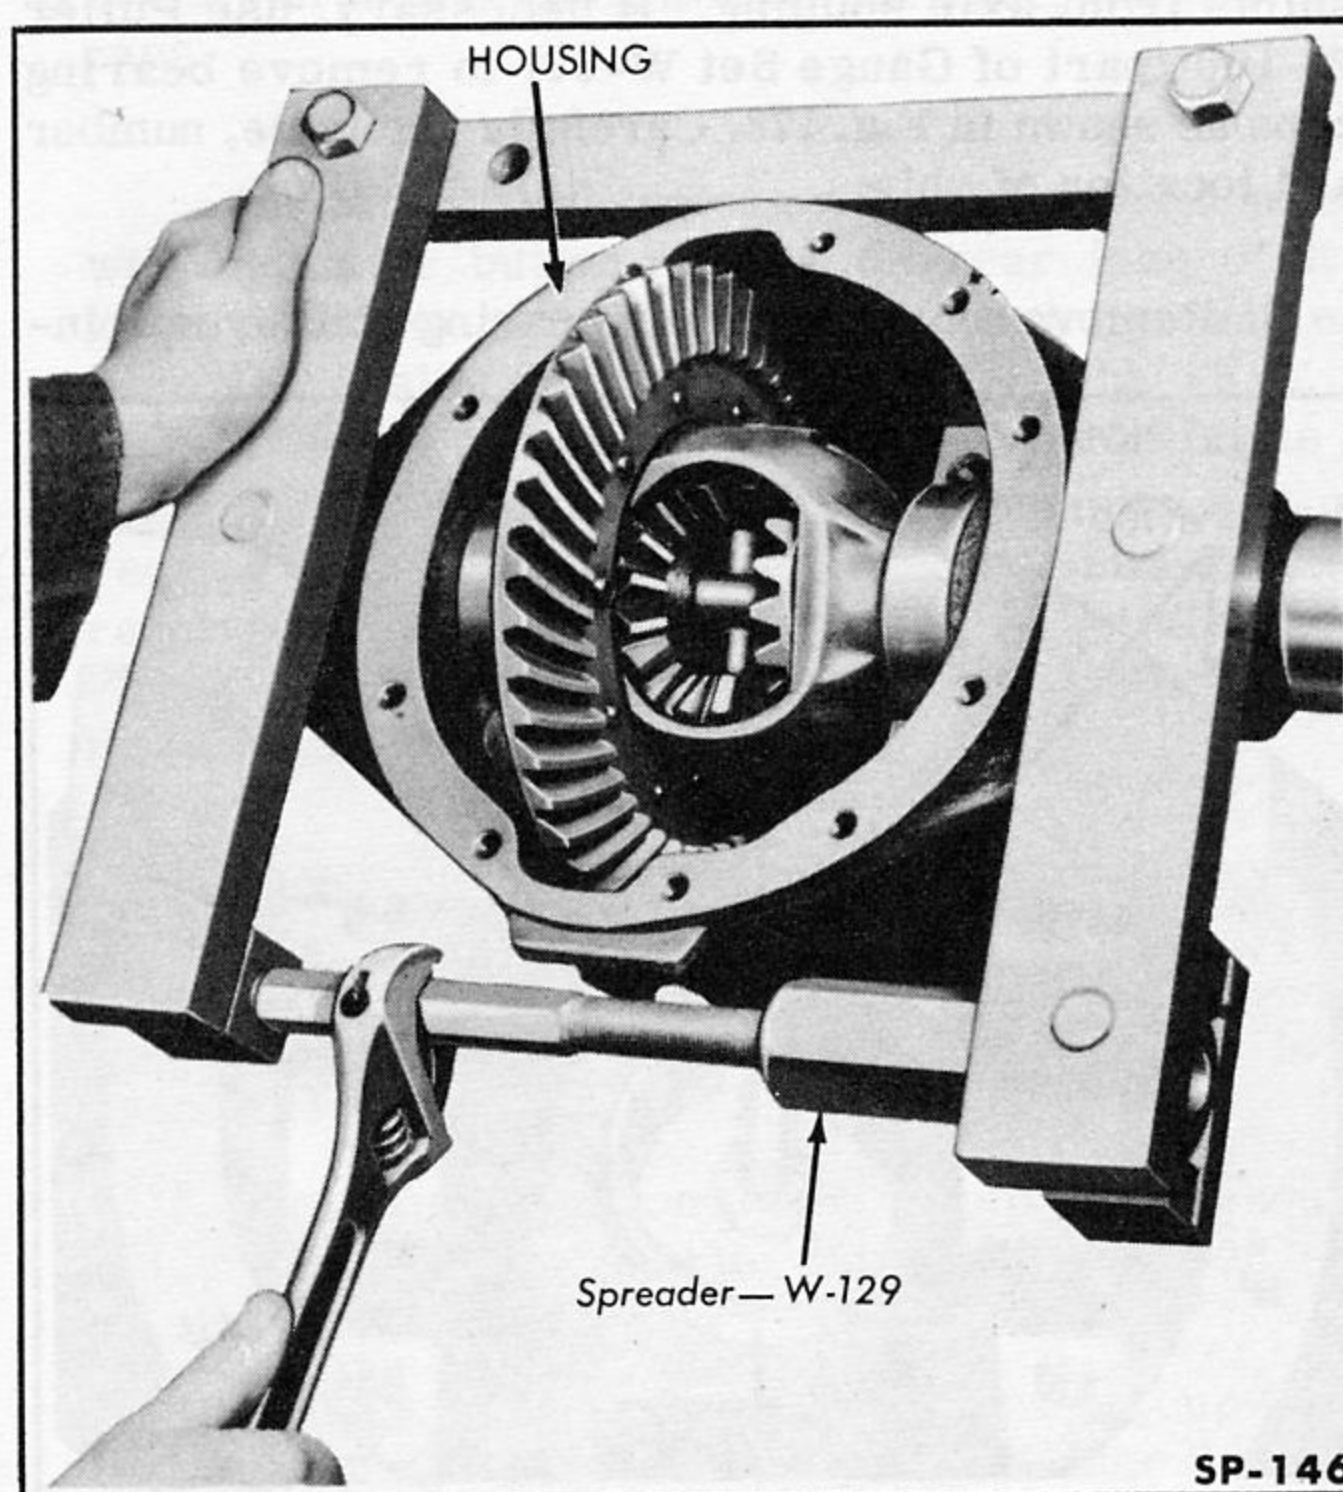

Fig. 176—Spreading Rear Axle Housing
5. Remove differential bearing caps (note identification on caps and on housing to assure proper assembly). Remove differential and differential side bearings from axle housing, using Axle Housing Spreader W-129 as shown in Fig. 176. CAUTION: APPROXIMATELY .020 OF AN INCH SPREADING IS SUFFICIENT TO REMOVE DIFFERENTIAL. FURTHER SPREADING MAY CRACK HOUSING. RELEASE SPREADER AFTER REMOVING DIFFERENTIAL TO PREVENT PERMANENT DISTORTION OF HOUSING.